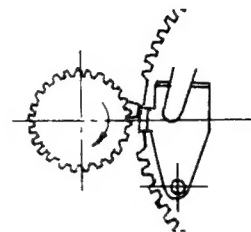

Fig. 3
3. As playing proceeds, the trip slide moves toward the center of the turntable following the movement of the tonearm as shown in Fig. 3.